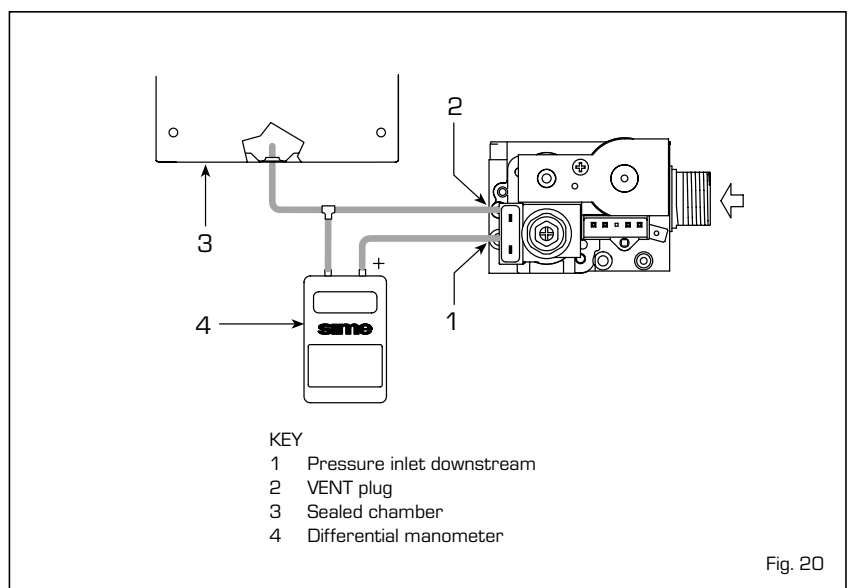

Fig. 20
- Connect the differential manometer as shown in fig. 20.
- Remove the plastic cap of the modulator (1).
- Using a  $\varnothing$  9 wrench turn the nut (3) to find the maximum pressure as shown in *Table 6*: to reduce the pressure turn the nut anti-clockwise, to increase the pres-